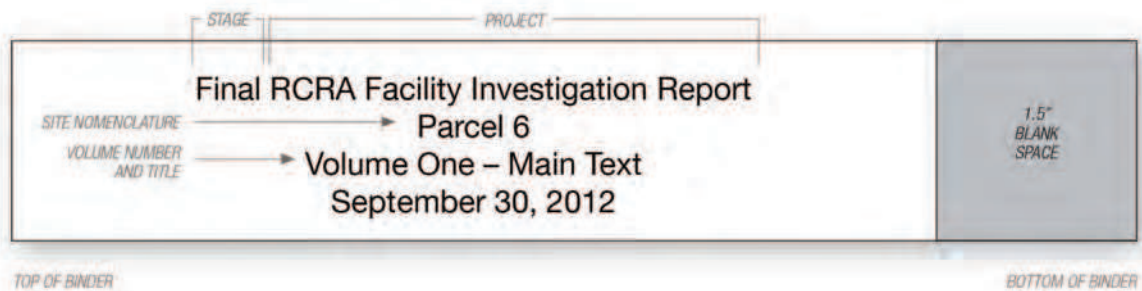

Figure J-1. Binder Spine Label Example – Horizontal
6. The placement of the Spine Label must appear as shown in Figures J-1 and J-2.